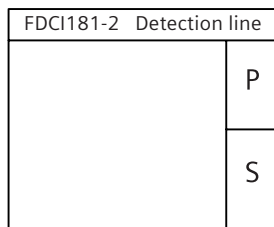

Fig. 5
3. Connect the alarm indicator in accordance with the connection diagram (Fig. 5).
4. Connect the alarm indicator in accordance with the connection diagram (Fig. 5).
1. Connect the cables to the terminals according to Fig. 5/6.